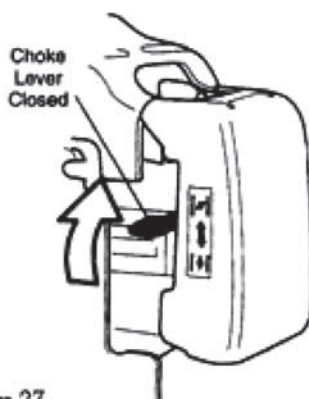

Figure 27
4. Choke the engine by moving the choke lever up to the “closed” position. See Figure 27.